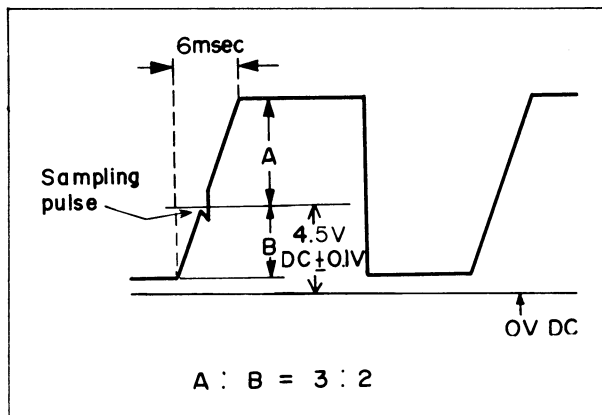

Fig. 5-9. Sampling waveform
2. Adjust R63 (Sampling Position) so that the sampling pulse position at TP-2 becomes 4.5V DC  $\pm$  0.1V as shown in Fig. 5-9; the ratio A:B should be about 3:2.